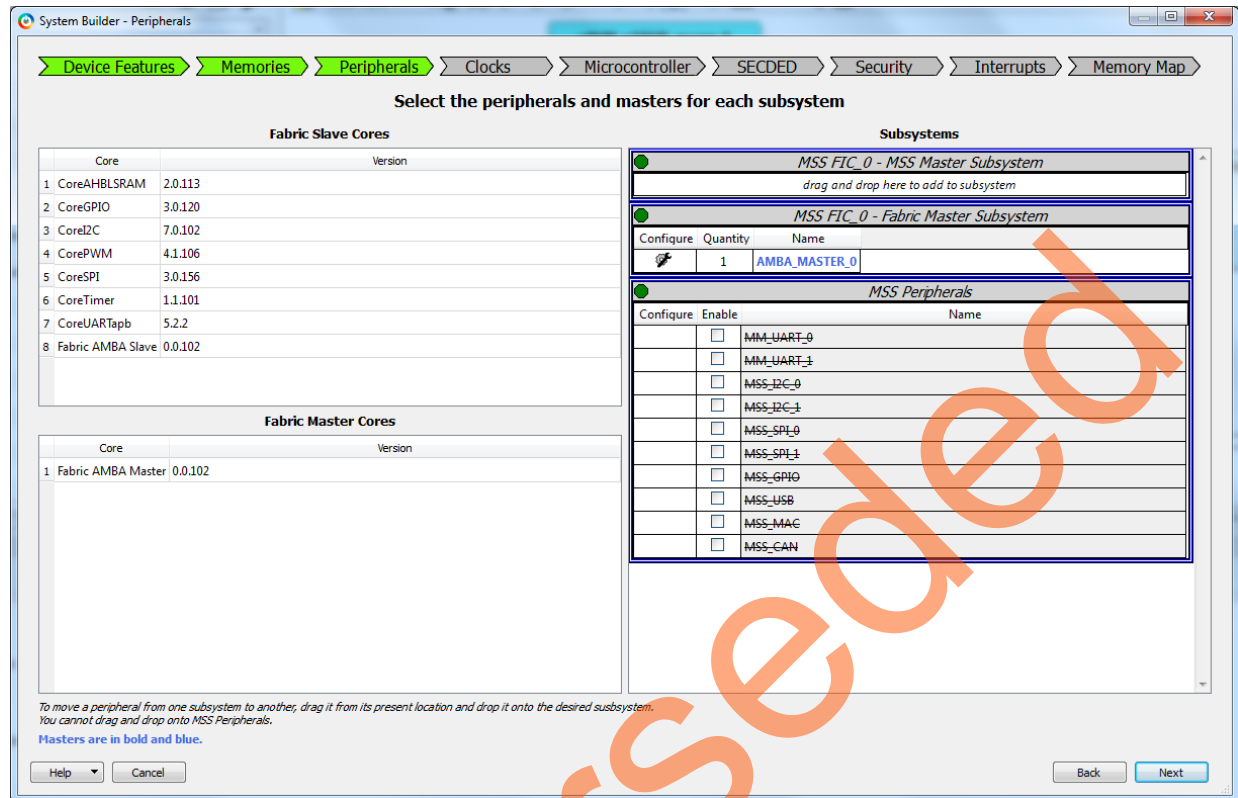

Figure 9 • SmartFusion2 - Peripherals Page
- In the **Peripherals** page, add **MSS FIC_0 - Fabric Master Subsystem** to provide the AHBL master interface to the user logic, as highlighted in Figure 9.